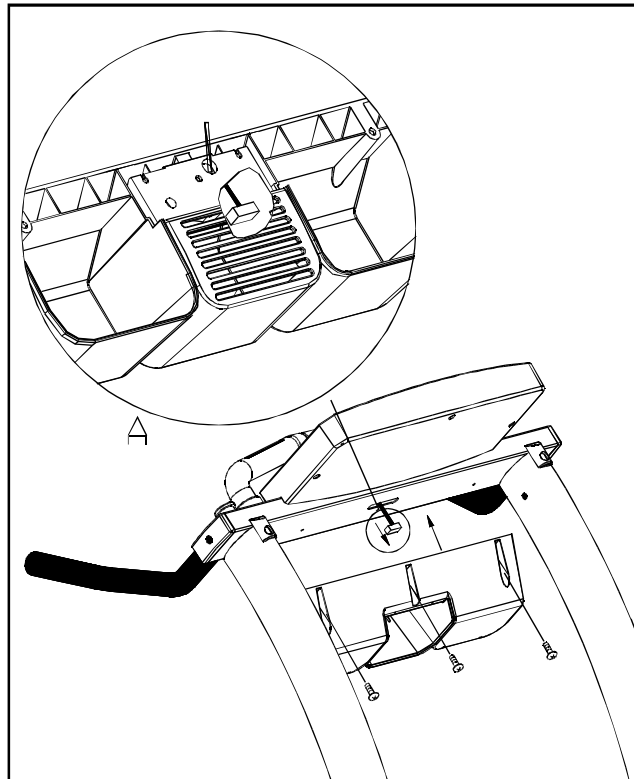

Fig.7
7. Pass the wiring from the back of electronic display through the hole on the top of fan cover as shown in Fig.7A. Attach the accessory tray. (see Fig.7)